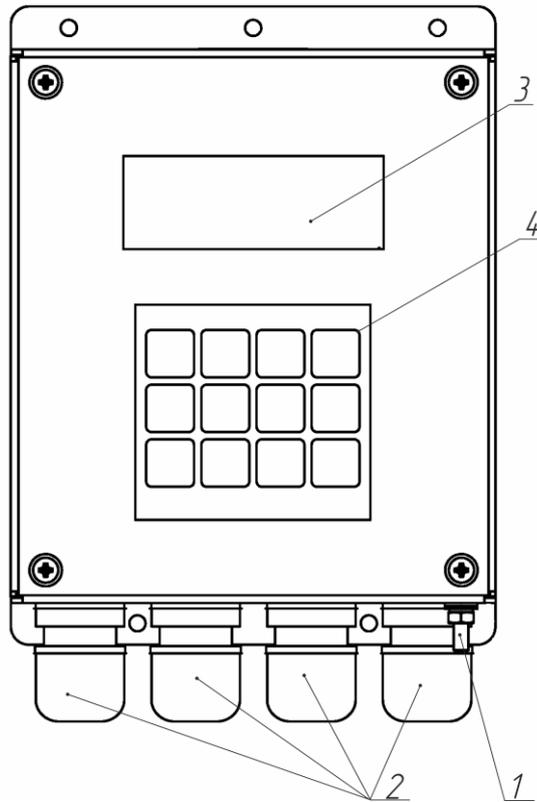

Figure 1 – ADPC-101 external view
1.3.1 The Product is manufactured in metal casing where a grounding stud and connection ports are located, see Figure 1.
Note – See the positions on Figure 1.